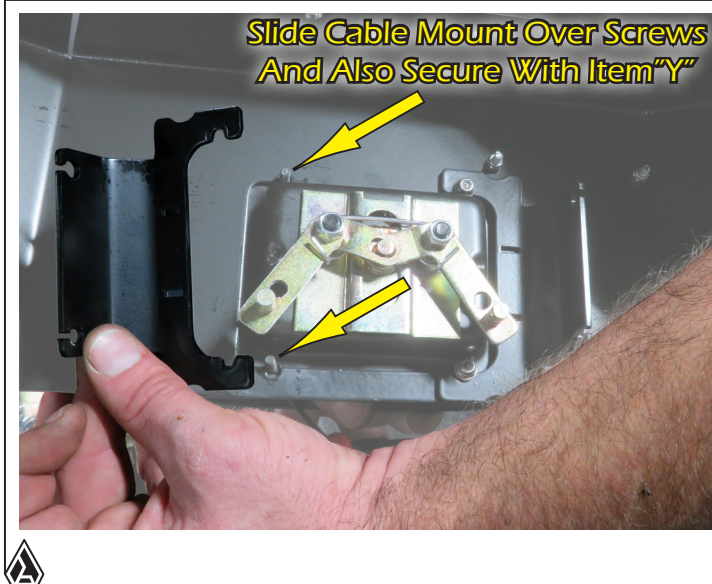
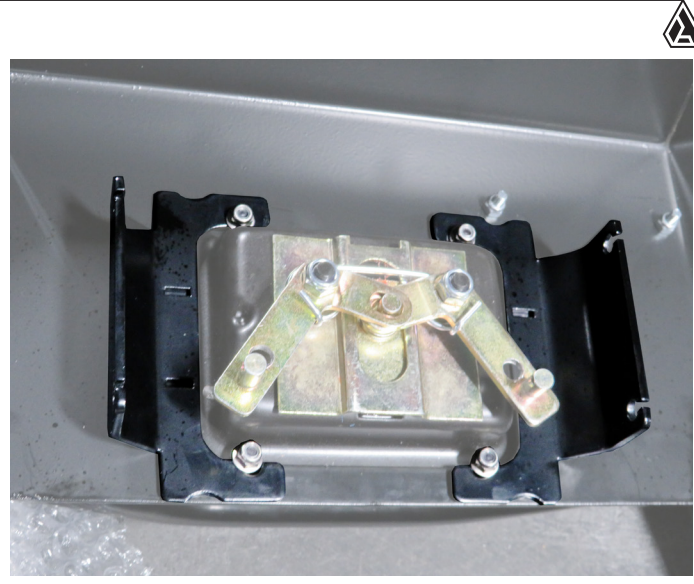

FIG.13A
FIG.13B
13. Now do the same for the opposite side of the latch and install the Cable Mount over the screws and also secure With **Item "Y"** as shown in **Fig.13a**. Your Latch Release should look like the one in **Fig.13b**.